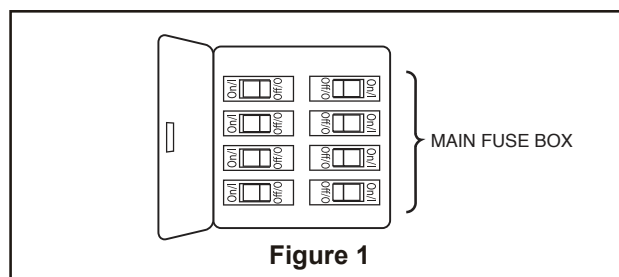

Figure 1
- ☐ 1. Restore electrical power to the outlet box by turning the electricity on at the main fuse box. (Figure 1)